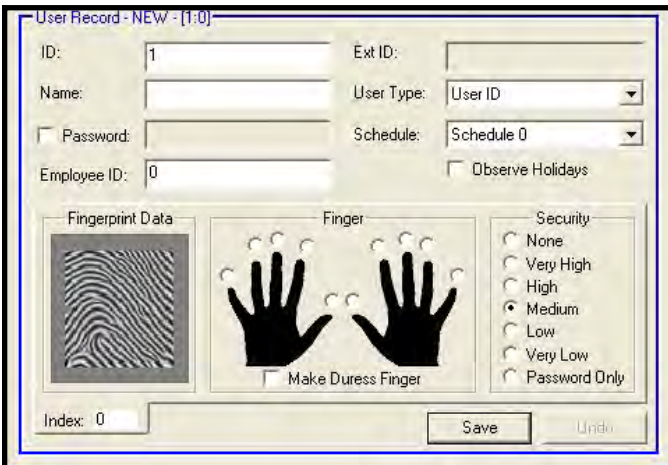

Figure 43. Bioscrypt, “User Record” section
- VIII. At this point, the user or supervisor is enrolled. The area in the lower left-hand corner of the screen contains important enrollment information, including an image of the actual fingerprint (see Figure 43).